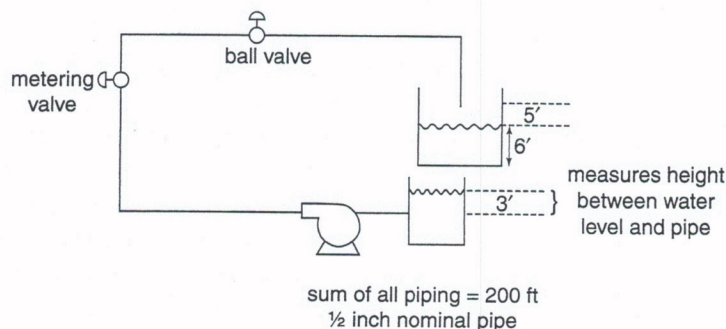

Figure 9.53
31. For the pump installation shown in Figure 9.53, calculate and plot the system curve. The tank water levels are 6 feet apart in elevation. What is the minimum head needed to pump water in this loop at low flow rates? All pipe is Schedule 40.